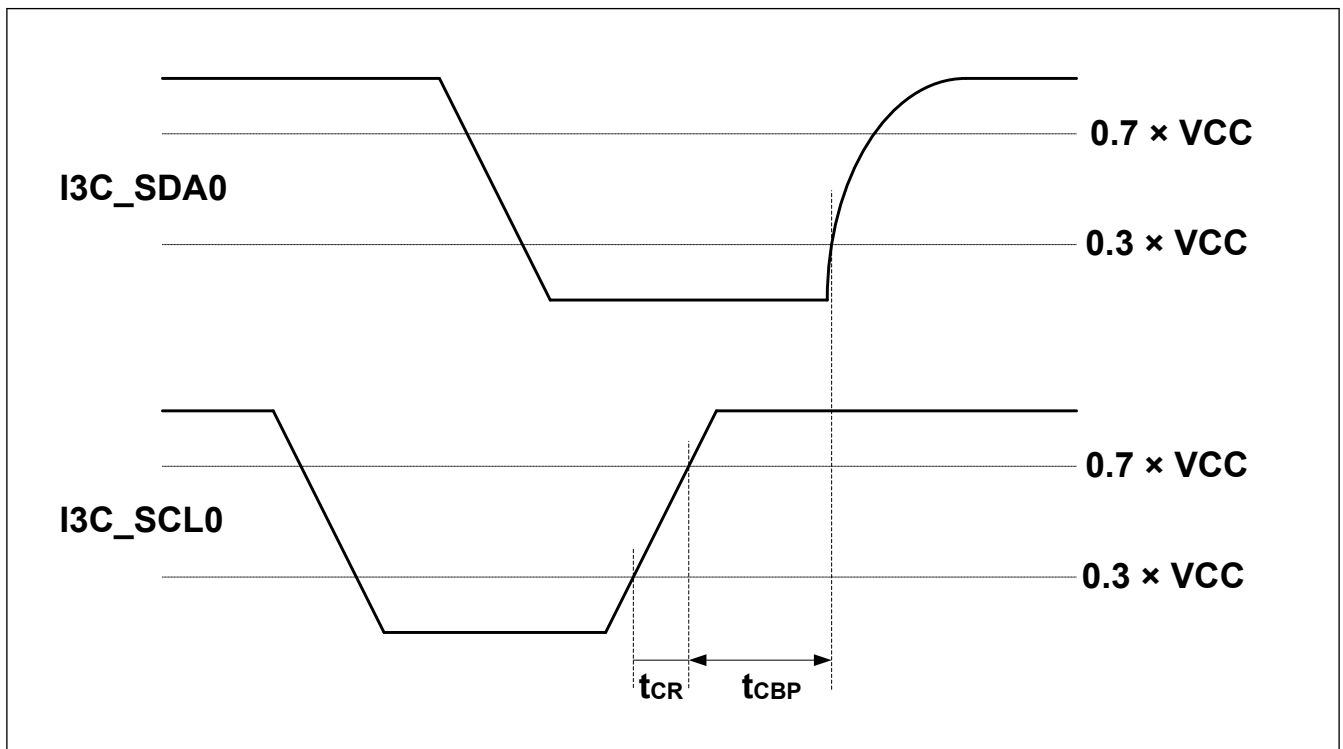

Figure 2.71 I3C STOP condition Timing
- Note 2. In a Mixed Bus, HDR-TSL shall respect the maximum $t_{DIG_H_MIXED}$ shown in Figure 2.71.